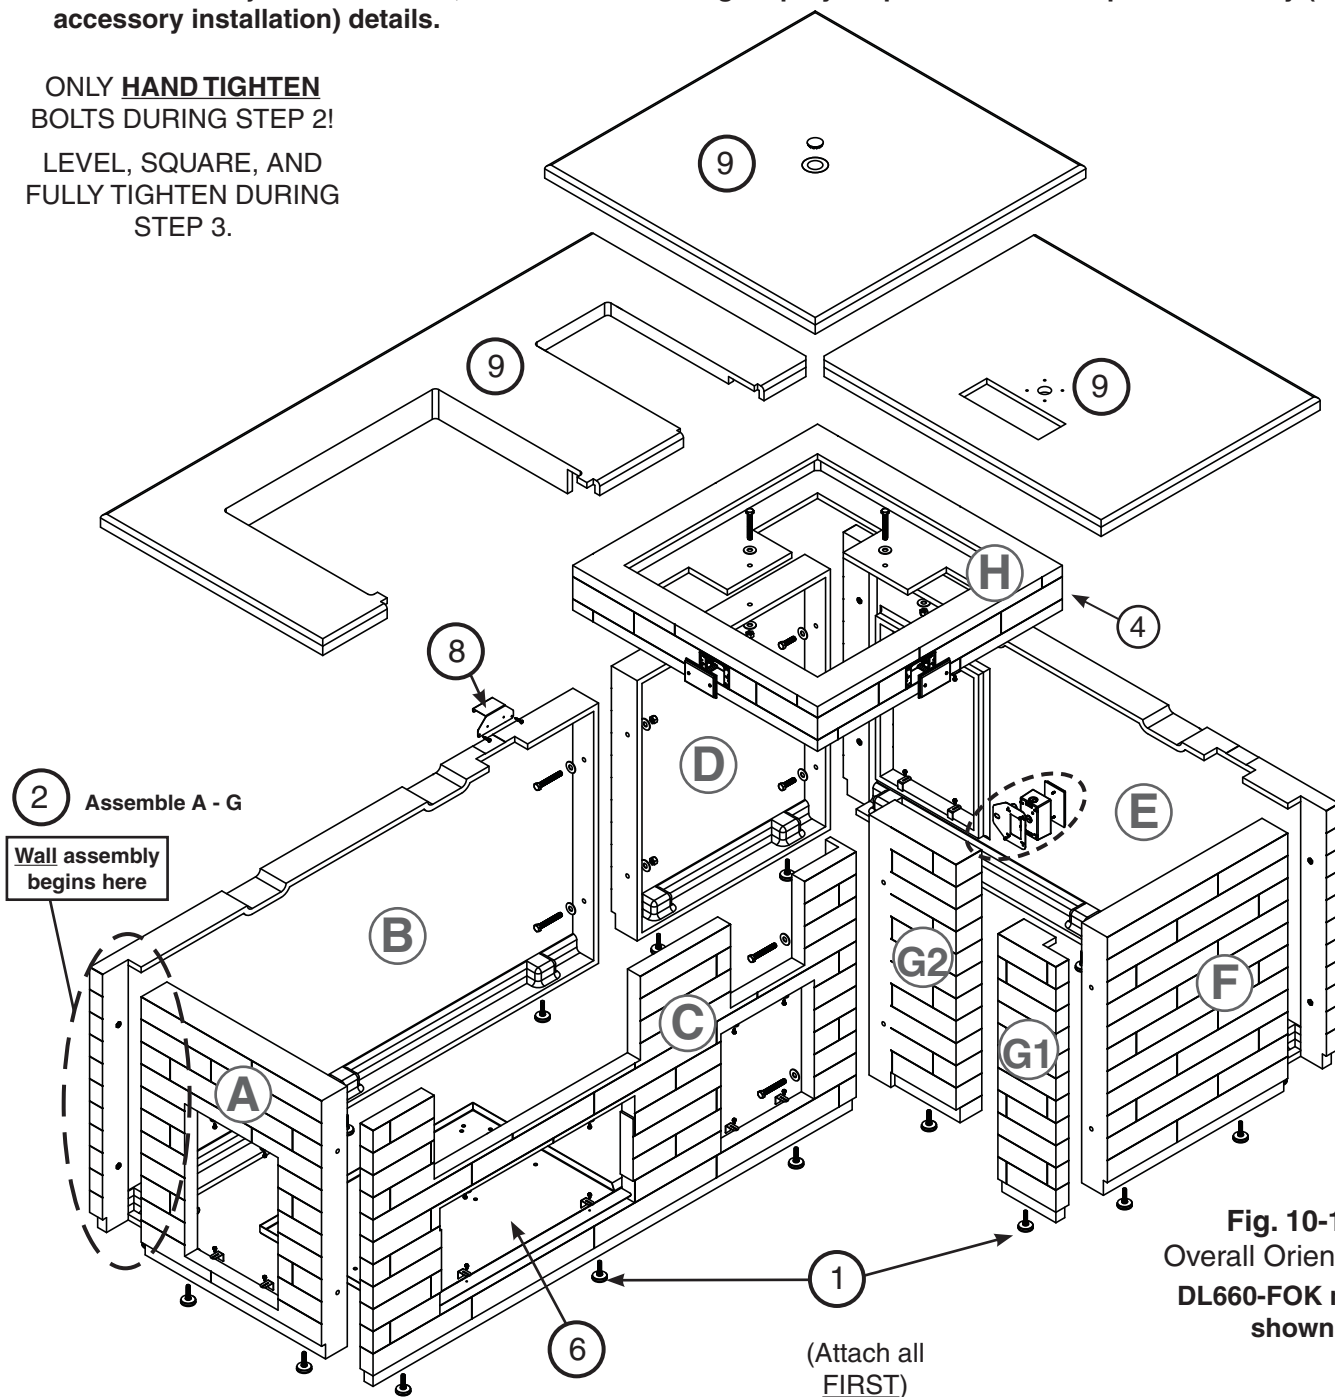

Fig. 10-1
- Fig. 10-1 provides an overall orientation and bolt assembly detail for the island with kegerator.